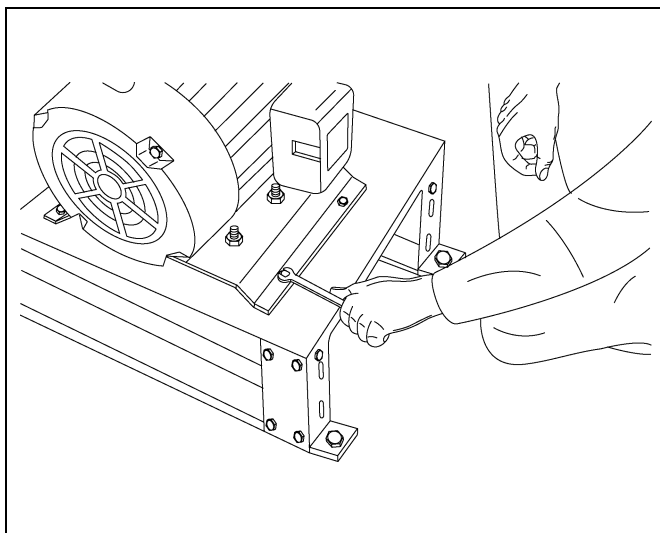

Figure 7D
3. Check the motor nameplate for the correct motor frame size. Remove the hardware shipped in the motor mounting plate. Locate the motor on the mounting plate using the hole pattern, which aligns with the motor base. Bolt the motor securely to the mounting plate with the supplied hardware that was previously removed. Loosen the four (4) 1/2" flange head bolts, which secure the motor mounting plate to the blower base. (See Figure 7D.)